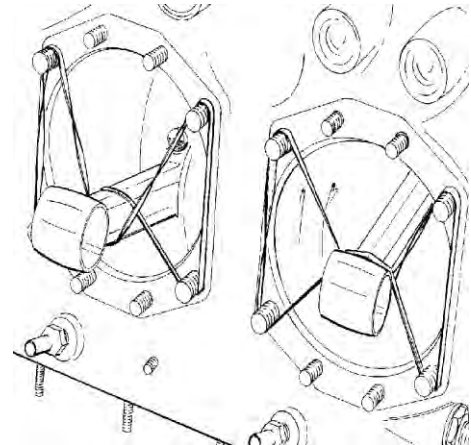

Figure 10
(2) Make a loop around the cylinder base studs and connecting rod using a rubber band or the cylinder base seal (removed during cylinder removal) as shown in Figure 10.